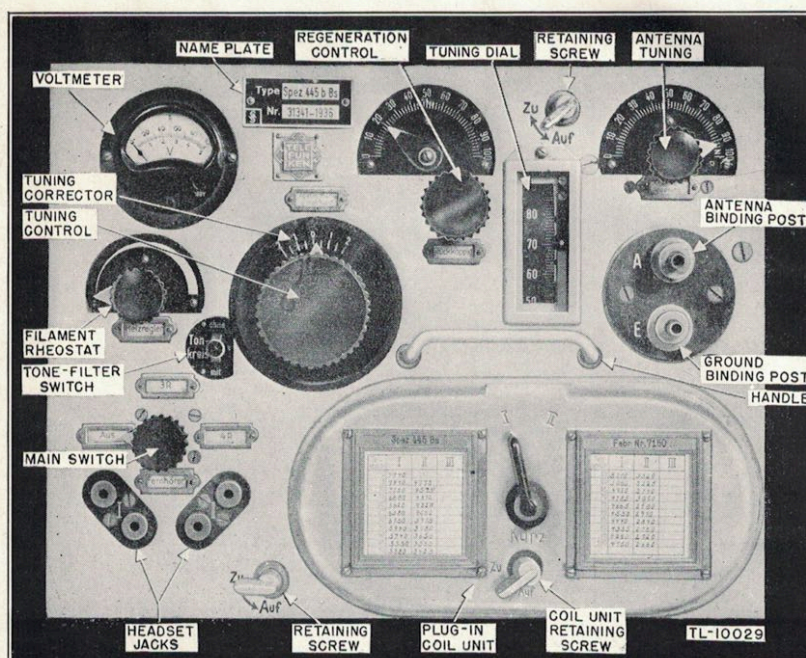
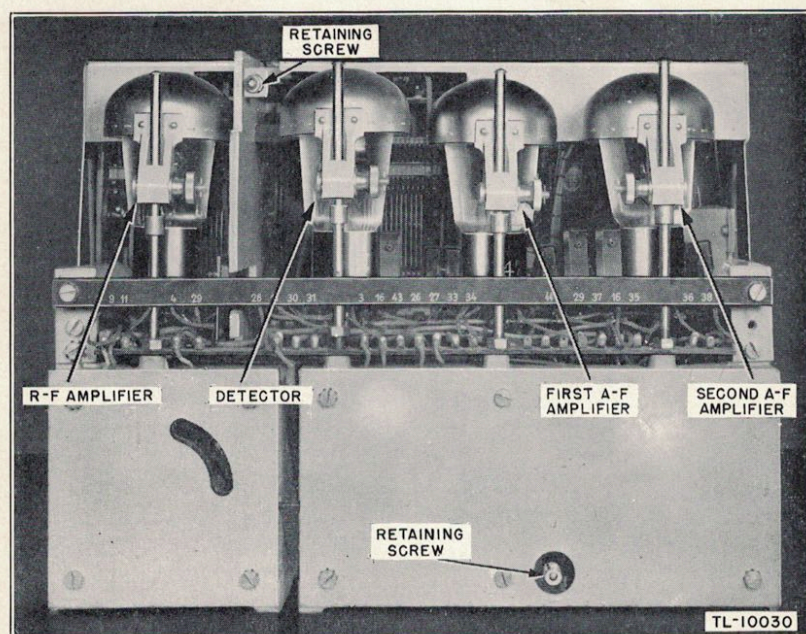

Figure 3. German radio receiver, Spez. 445 b Bs, front view.
Figure 6. German radio receiver, Spez. 445 b Bs, removed from case, rear view.
**3. CONTROLS.** The controls on the front panel (fig. 3) are listed below with a brief statement of their function:
- (1) Remove the set from the apparatus case by first loosening the two retaining screws labeled **Zu** (tighten) and **Auf** (loosen).
- (2) Check the tubes, making sure that they are firmly seated in their sockets and that the hold-down covers are securely in place.
- (3) Replace the set in the apparatus case and tighten the retaining screws.
- (4) Install the batteries as described in paragraph 4.
- (5) Connect antenna to binding post marked **A** (antenna).
- (6) Connect ground to binding post marked **E** (ground). If used in a vehicle this binding post should be connected to the vehicle chassis.
- (7) Insert plug-in coil covering the desired frequency range.
- (8) Plug headset into one of the **Fernhörer** (headset) jacks. The set is now ready for operation.
**b. Operation.** Operation of the **Spez. 445 b Bs** (portable receiver b) is simple once the operator has familiarized himself with the controls. Figure 3 shows the location of the various controls as they appear on the front panel of the set. Paragraph 5a above gives the installation procedure prior to operation. General operating instructions are given below:
- (1) Turn the main switch to **4R** (4-tube). This places all four tubes in operation and turns on the battery power to the set.
- (2) Adjust the **Heizregler** (filament rheostat) so that the voltmeter reads 3.8 (the red mark on the meter dial). Turn control clockwise to increase the filament voltage.
- (3) Depress the blue button on meter. The meter will indicate the **Anode Batterie** ("B" battery) voltage, which should be between 80 and 100 on the meter dial (the blue portion on the meter dial).
- (4) Set band switch on plug-in coil unit to desired frequency range.
- (5) Refer to calibration tables on plug-in coil unit for approximate dial settings.
- (6) Switch the **Tonkreis** (tone filter) to the **ohne** (out) position.
- (7) When receiving c-w signals, set the **Rückkopplg.** (regeneration) control just past the point at which the set begins to oscillate. Oscillation is usually indicated by a rushing noise in the headset. For the reception of tone-modulated signals, set the **Rückkopplg.** just before the point at which the set begins to oscillate.
d. If the set is still inoperative, start with the first audio frequency tube and work back towards the r-f amplifier tube, replacing the tubes in order. To change the tubes the set must be removed from the apparatus case. Do this by loosening the two retaining screws on the front panel (fig. 3). Figure 6 shows the location of the tubes when the set is removed from the apparatus case.